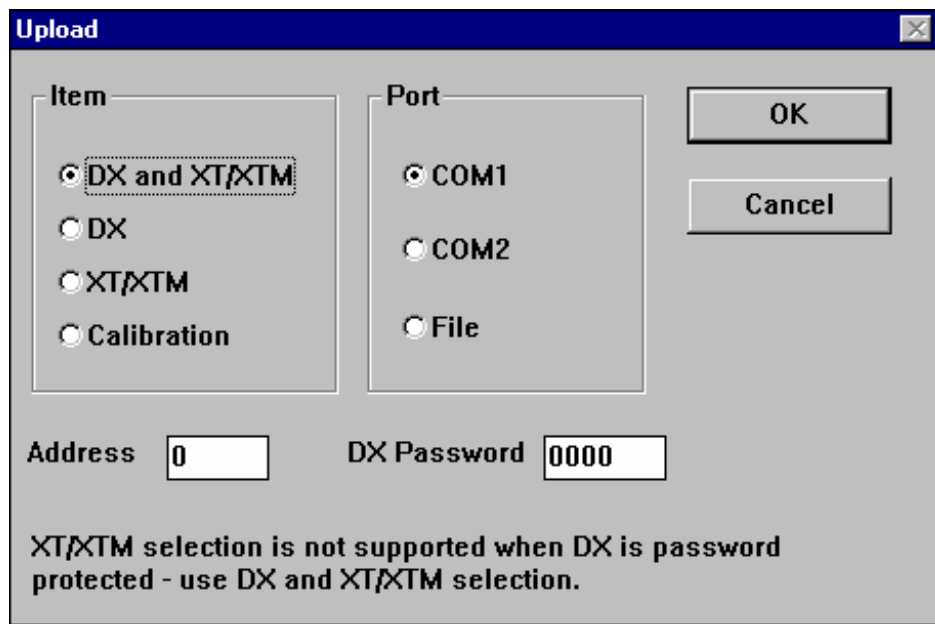

Figure 8-4: Upload Dialog Box
2. On the Action menu, click Upload. The Upload dialog box appears (Figure 8-4).